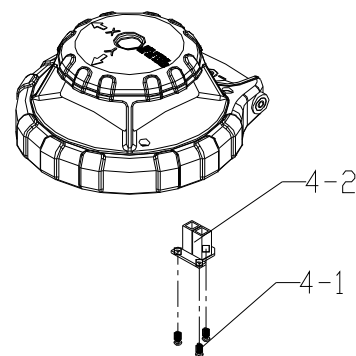

Figure 18
1. Figure 18 illustrate the charging/connecting board assembly. Remove 2 crosshead plate screws M2.5×6 (4-1#).